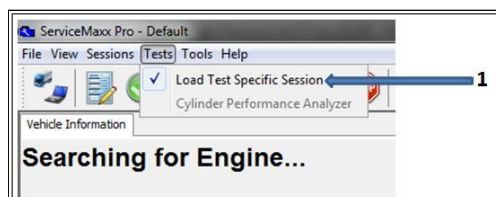

Figure 1: ServiceMaxx Test Preparation
3. Under "Tests" deselect "Load Test Specific Session" (See Figure 1)